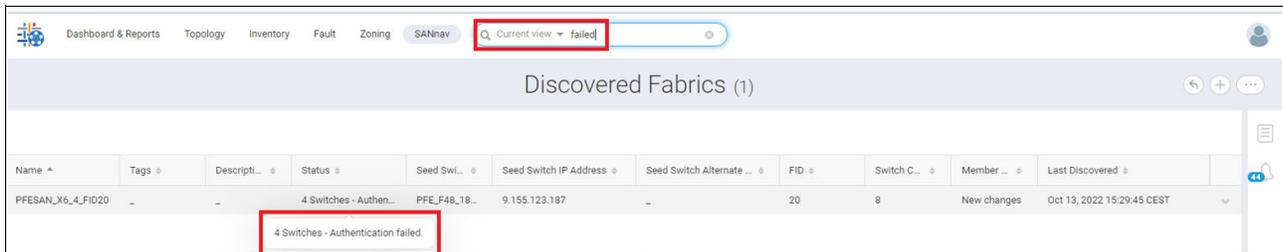

Figure 4-19 Search for switches with the “failed” status
3. Hover your cursor over the message in the Status column to see the complete message, including the switch name, as shown in Figure 4-19.